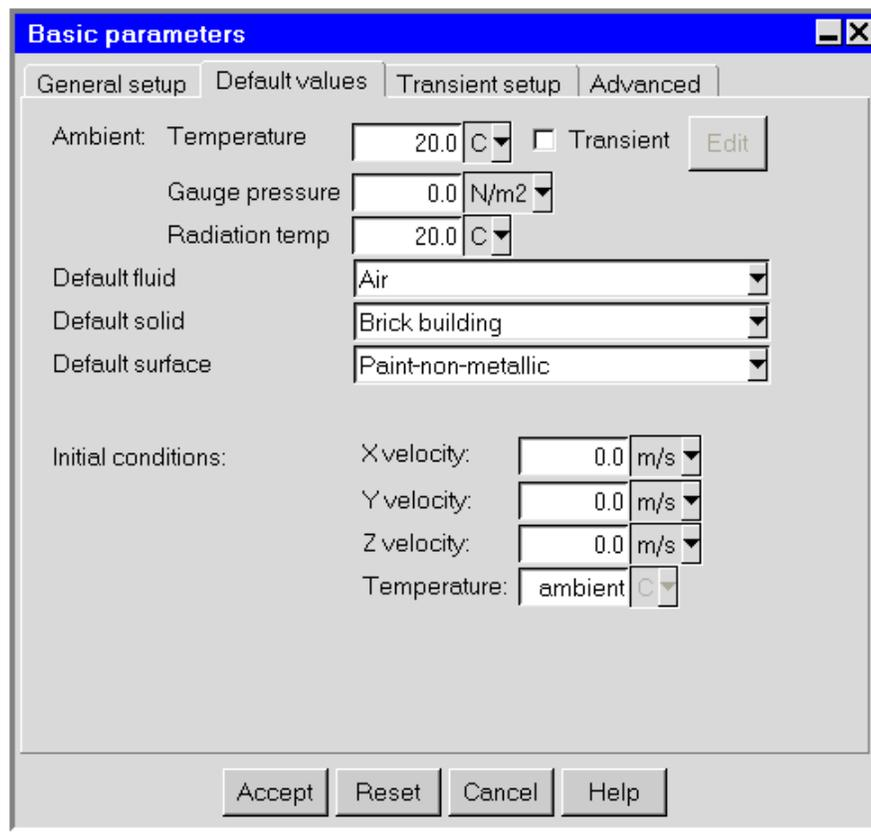

Figure 20.1.5: The Basic parameters Panel (Default values tab)
4. Specify an ambient value of temperature by entering the ambient Temperature under Ambient values in the Default values tab of the Basic parameters panel (Figure 20.1.5).
6. Specify the initial conditions for the fluid in your model in the **Default values** tab of the **Basic parameters** panel (Figure 20.1.5). For a transient simulation, this corresponds to the initial physical state of the fluid. See Section 6.4.8 for more details on setting initial conditions.